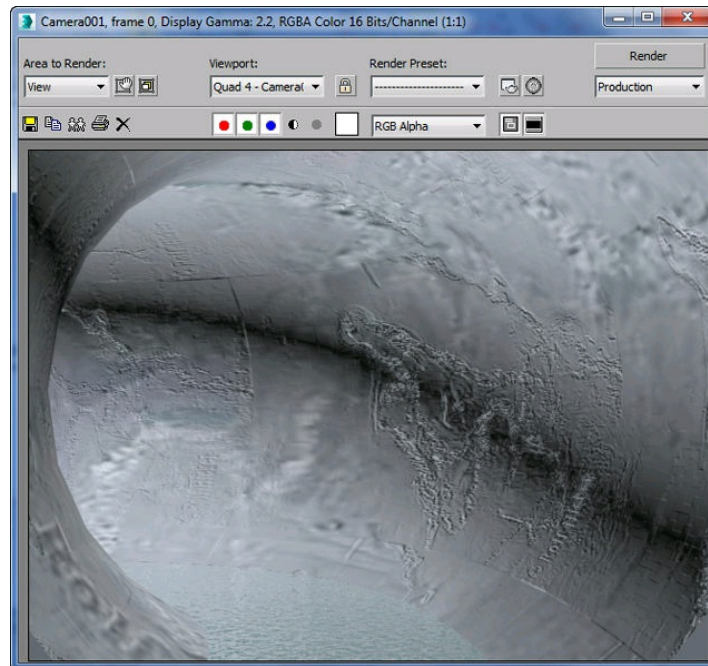

Figure 14-25 The scene after assigning the materials
19. Activate the Camera001 viewport and choose the **Render Production** tool to view the maps and materials assigned to the objects. The scene is displayed, as shown in Figure 14-25.